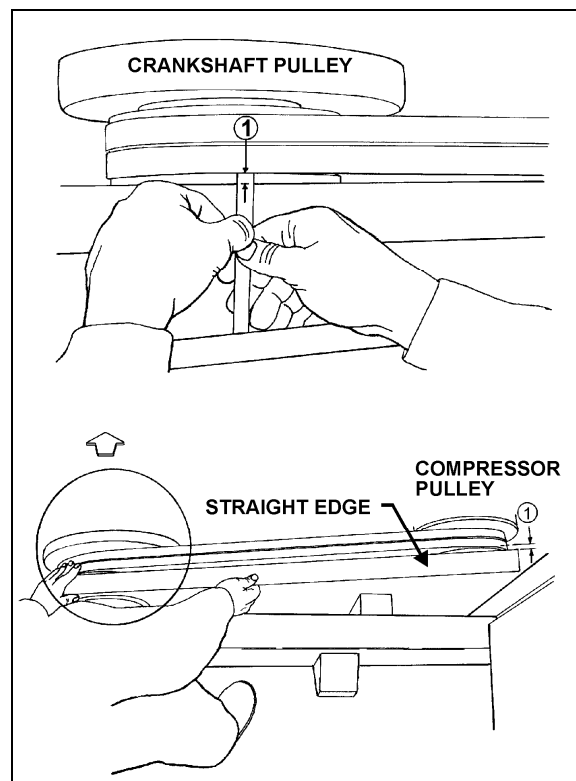
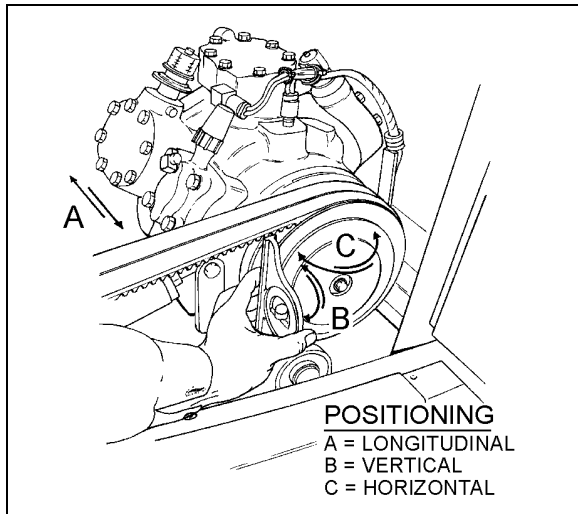

FIGURE 25: COMPRESSOR ALIGNMENT
FIGURE 26: COMPRESSOR ALIGNMENT
1. Rest an extremity of a straight edge of approximately 46 inches (117 cm) against the upper part of the outer face of crankshaft pulley, positioning the other end close to the compressor clutch pulley (figure 25 & 26).
2. Check the distance between each extremity of straight edge (1, figure 25) and the first drive belt. If they are different, loosen the compressor support bolts and with a hammer, knock support to slide it in order to obtain the same distance; then tighten bolts.
2. Check the distance between each extremity of straight edge (1, figure 25) and drive belt. If they are different, loosen the pillow block compressor bolts and with a hammer, knock compressor pillow block to slide it, in order to obtain the same distance; then tighten bolts.
Rest a short "angle and level indicator" on the outer side face of the crankshaft pulley, adjust the level indicator inclination at 0° and check if the compressor pulley is at same angle (figure 25 & figure 26). If it is not the same, shim under the appropriate pillow block in order to obtain the correct angle.